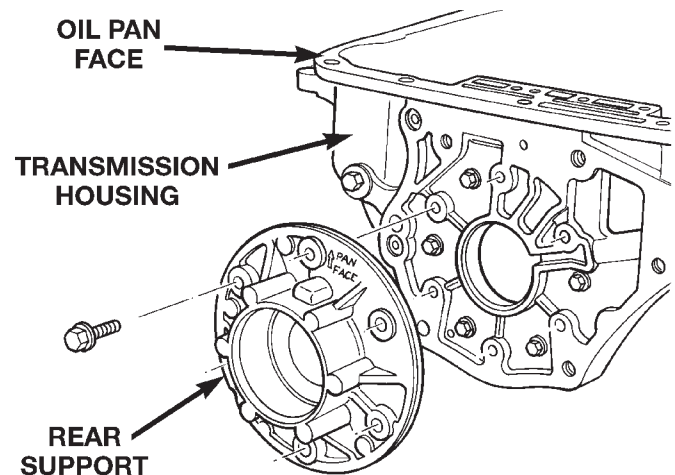
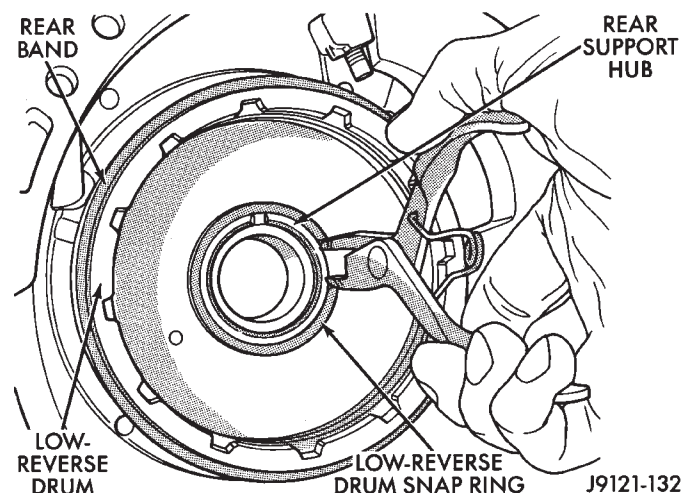
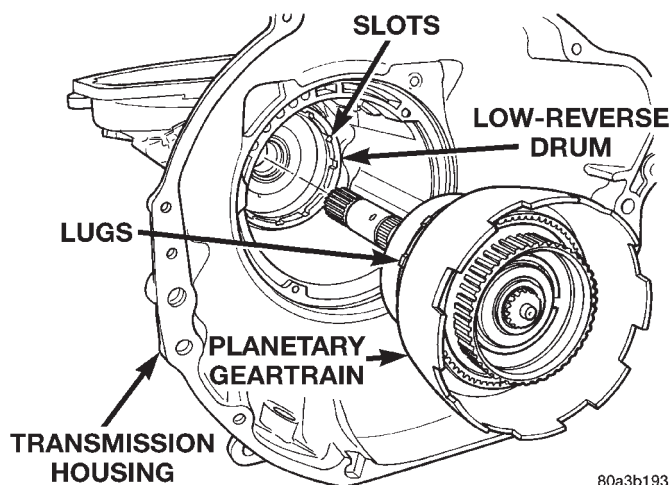

Fig. 94 Rear Support
Fig. 95 Low-Reverse Drum Snap Ring
Fig. 96 Output Shaft And Planetary Geartrain
- (14) Install overrunning clutch cam bolts. **Clutch cam bolts are shorter than rear support bolts.** Tighten cam bolts to 17 N·m (150 in. lbs. or 13 ft. lbs.) torque.
- (15) Hold low-reverse drum in position so rear support will not push it out of overrunning clutch.
- (16) Insert rear support into opening at rear of transmission case (Fig. 94).
- (17) Align support with the embossed arrow in the direction of the pan face.
- (18) Install and tighten rear support bolts to 17 N·m (150 in. lbs.) torque.
- (19) Install snap ring to retain low-reverse drum to hub of rear support (Fig. 95).
- (20) Lubricate output shaft, rear support bore and low-reverse drum hub with transmission fluid.
- (21) Install assembled output shaft and planetary geartrain in case (Fig. 96).
(22) Align drive lugs on rear planetary gear with slots in low-reverse drum (Fig. 96). Then seat planetary assembly in drum.
(23) Install governor on output shaft.